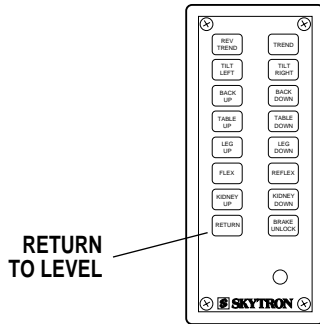

**Figure 3-11. Kidney Lift Positioning**
**i. Kidney Lift.** To raise the built-in kidney lift, press the KIDNEY UP button (figure 3-11). Up to 5 inches of lift can be achieved. Press the KIDNEY DOWN button to lower the kidney lift.